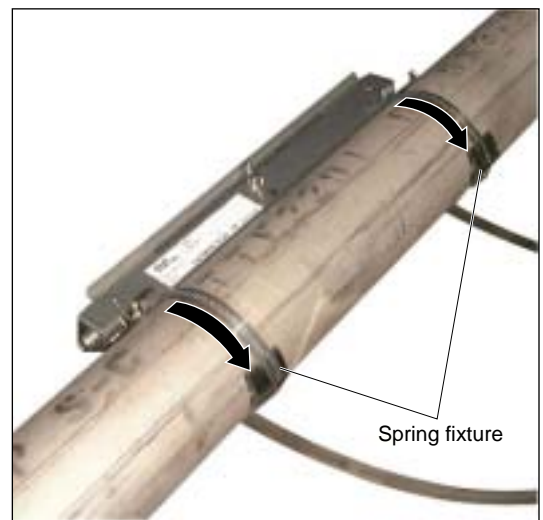

Fig. 3-8
- (7) After tightening both stainless steel belts, slide the spring fixture to the opposite to the frame as shown in Fig. 3-8.